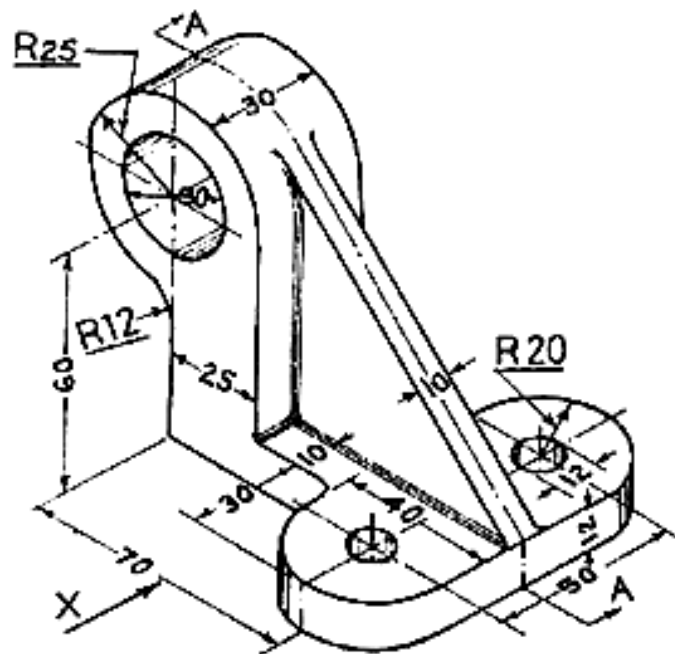

Figure 2
2. Draw the following View for **Figure 2**